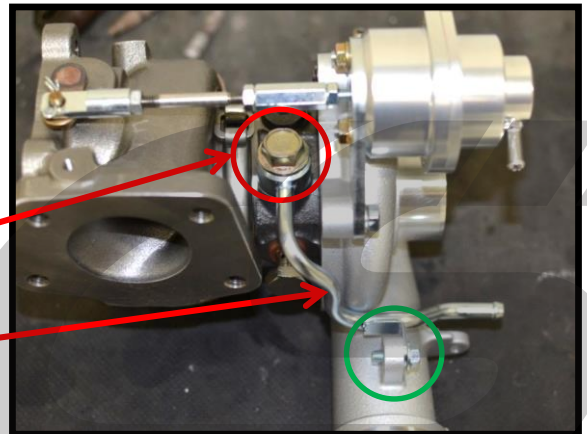
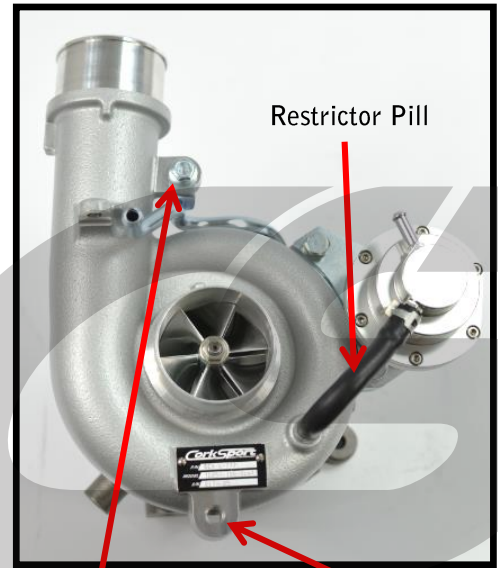

Figure 10b
Figure 10c
- Install the provided upper coolant line with the OEM 17mm banjo bolt and new provided copper crush washers and **Torque to 20 ft-lb.** Shown with the red circle in **Figure 10b**. Install the M6 16mm flange bolt provided. Shown with the green circle in **Figure 10b**. Also shown in **Figure 10c** on next page with a front view of the turbo.